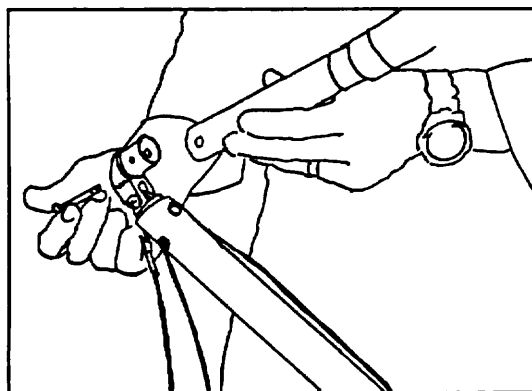

Figure 6
3) Lift the control bar and attach the basetube to the upright, using the bolt, wingnut and safety provided. (Figure 6 & 7)